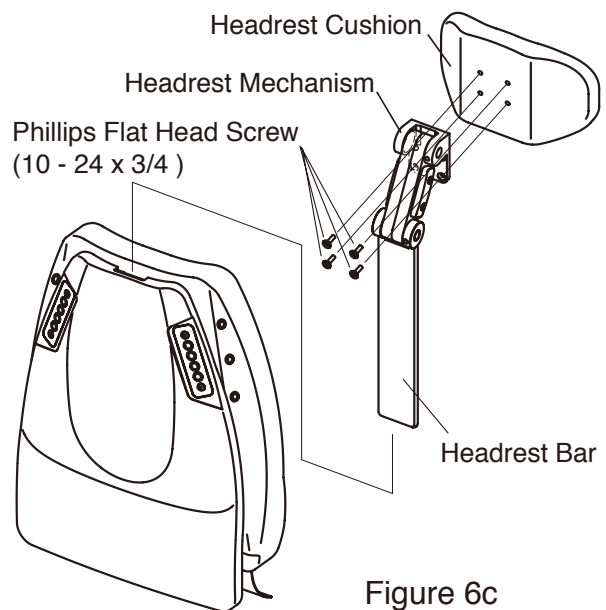

Figure 6c
13) Attach headrest cushion to headrest mechanism using 4(10-24 x 3/4) phillips flat head screws and slide headrest bar into opening in top of backrest. (See Figure 6c)